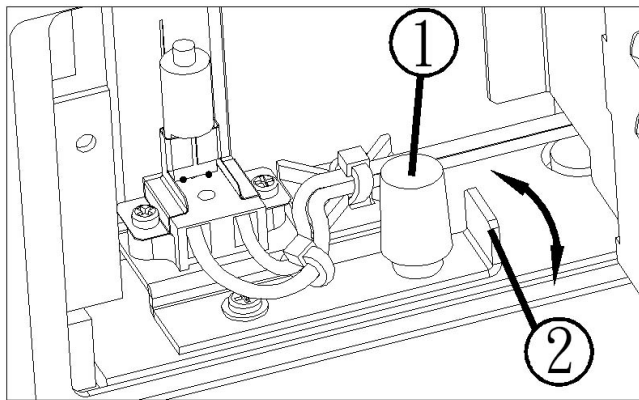

Figure 5b: Lamp tuning
11. In the lamp house (figure 5b), loosen the white thumbscrew (#1) and adjust the vertical flange (#2) close to it forward/backward. The displayed number XXX will vary in accordance with flange movement. Find the largest number and tighten the thumbscrew.